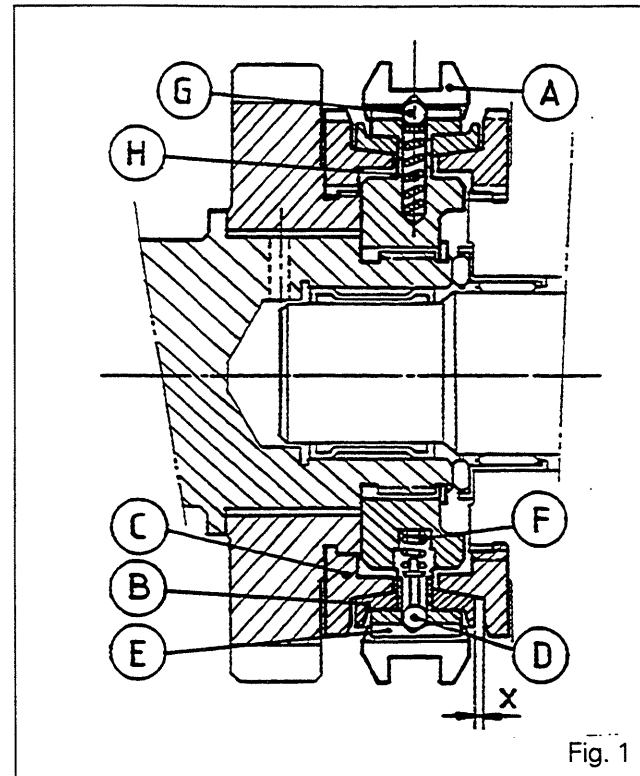

Fig. 1
### C. Synchromesh assemblies (Fig. 1)
When the synchromesh assemblies are removed, check for wear on the synchro rings (B) (Fig. 1). Place the cone (C) on a flat surface and position the ring (B) against it, rotating it a few times. Measure dimension X at several locations with a set of feeler gauges (Fig. 2). If it is less than 0.8 mm, fit a new ring (B) after checking the cone. Refitting of the synchromesh assembly is facilitated by using tool MF 415.
## List of parts (Fig. 1)